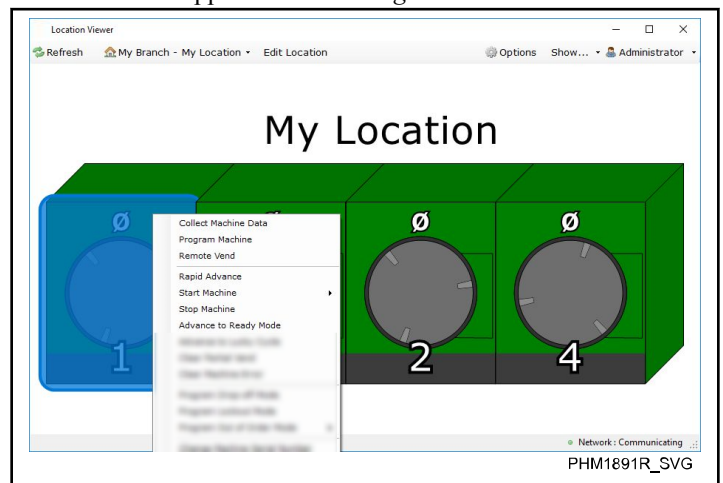

Figure 60
4. To view the available network commands, right-click on a machine (or several selected machines). The network command menu appears. Refer to *Figure 60*.